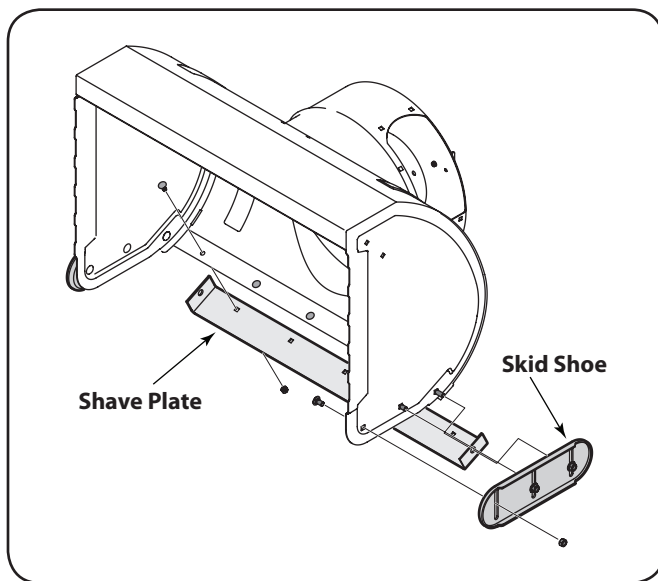

Figure 6-1
1. Remove the six carriage bolts, hex nuts, and bell washers that secure the two skid shoes to the sides of the auger housing. Refer to Figure 6-1.
bolts, bell washers, and hex nuts. Make certain the skid shoes are adjusted to be level. See Figure 6-1.